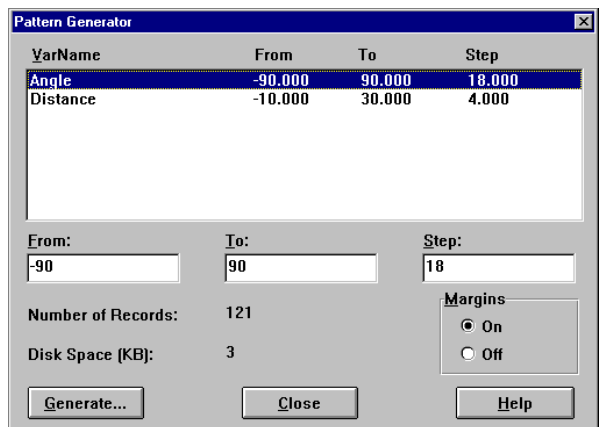

Figure 3–27: Pattern Generator dialog box
The pattern generator is started by selecting the [File][Pattern Generator] menu option. The pattern to be generated is specified in the Pattern Generator dialog box (Figure 3–27). Every input variable of the system is listed in the list box at the top by name, range (from; to), and the step width for the pattern to be generated. First, select a variable in the list box to change the pattern specification. The upper and lower margins of the pattern's interval are specified in the "From:" and "To:" edit field, while the resolution (size of the steps) is specified in the "Step:" field.
If you specify an interval for a variable that is not a multiple of the step size, the upper margin (the value specified in the “From:” field) is included in the pattern. You may however suppress this by selecting the “Margins” off setting in the Pattern Generator window (Figure 3–27). If, for example, you specified “From: 0”, “To: 10”, and “Step: 3” for a variable, then the pattern would comprise the values 0, 3, 6, and 9, if the margin option is set to off or the values 0, 3, 6, 9, and 10 if the margin option is set to on.
Generating complex patterns may result in large data files. The field “Number of Records:” shows the computed number of records which would be generated with the current settings. On this basis, the field “Disk Space (KB):” indicates an estimation of the disk space required for this data file (Figure 3–27). Click on the [Generate] button to start the generation of the pattern. If the pattern consists of more than 10000 records, a warning box lets you confirm the action.